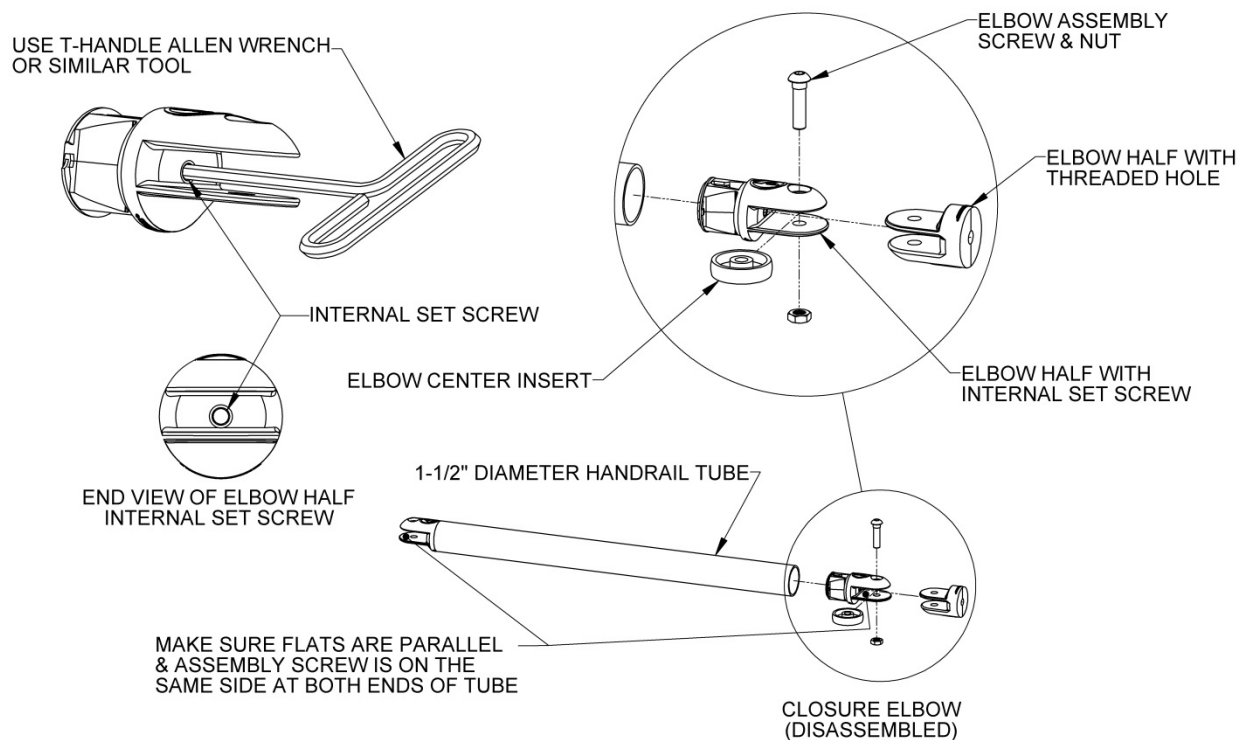

FIG. 10
- 3.7. Locate the eight closure elbows and disassemble by removing the screw and nut, then remove the center insert (FIG. 10).
- 4.6. Disassemble the closure elbows by removing the elbow screws and nuts but do not remove the closure elbows halves from the platform handrail or stair top posts (refer to FIG. 10 for closure elbow assembly details).